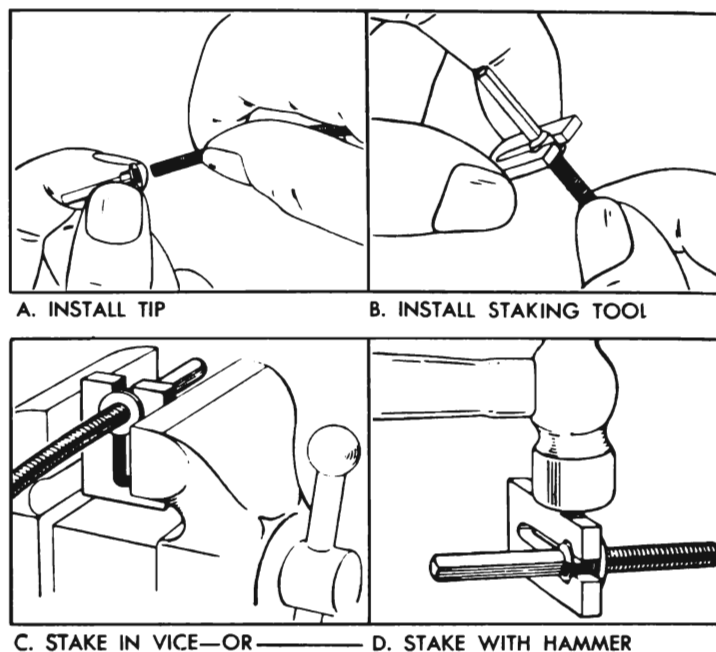

Figure 10-132—Installation of Speedometer Cable Tip
1. After cutting cable to specified length, fit the correct shape new tip to the cut end of cable, then insert cable and tip between the jaws of staking tool. See figure 10-132, views A and B.
2. Squeeze staking tool edgewise in a vise, or strike the upper edge of staking tool one or two sharp blows with a hammer. See figure 10-132, view C or D. Either method will fasten tip and cable together permanently.